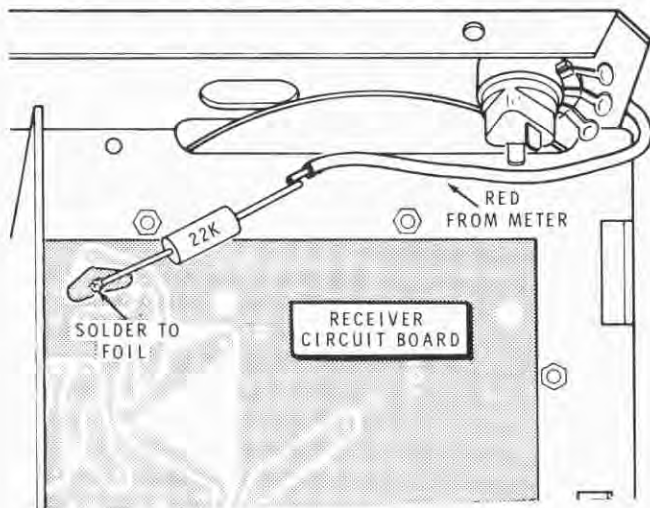

Figure 2-5
- () Refer to Figure 2-5 and tack solder one lead of the 22 k Ω (red-red-orange) resistor to the foil shown on the receiver circuit board (S-1).